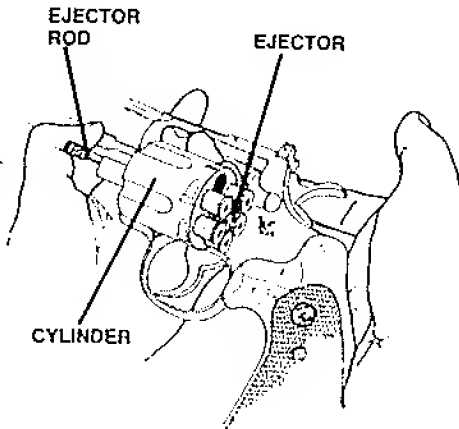

FIGURE 3-EJECTION
3. Push ejector rod backwards forcing out all live rounds or empty cases (See Figure 3). When they are clear of the chambers, remove from revolver. Allow ejector rod to return forward under its spring action.
2. Open the cylinder as previously described (See Figure 3).